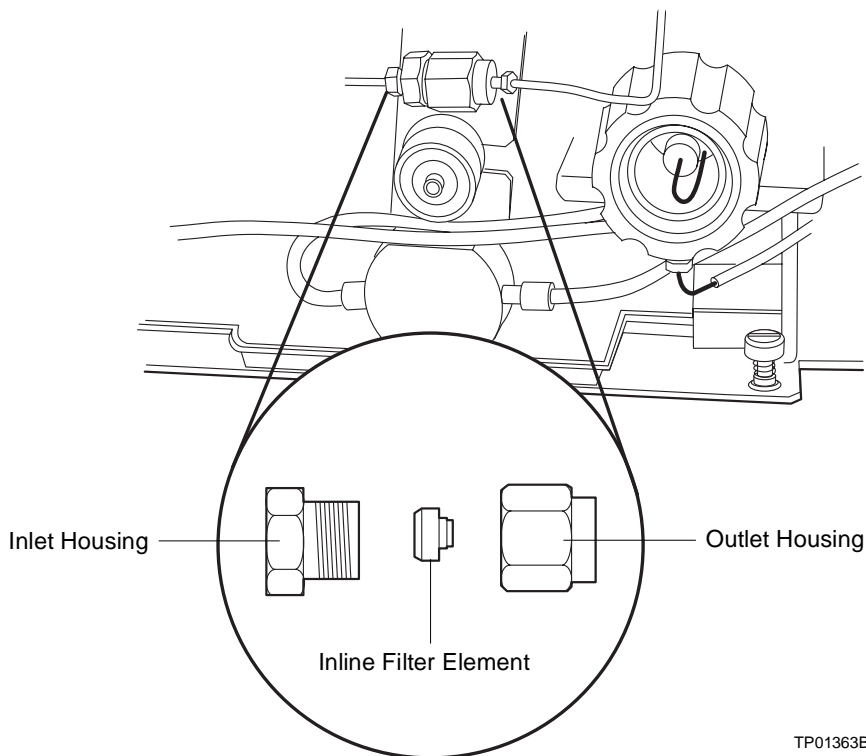

Figure 7-8 Replacing the Inline Filter
1. Use a 5/8-inch wrench and a 5/16-inch wrench to disconnect the compression screw on the left (inlet) side of the inline filter from the inline filter inlet housing (Figure 7-8). Use an absorbent tissue to absorb the small amount of solvent that may leak.